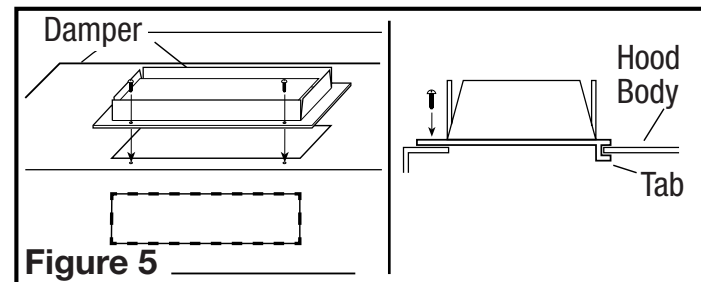

Figure 5
6. For 3-1/4" x 10" vertical or horizontal ducting, install the damper assembly to the hood by sliding the tabbed section of the damper under the hood body and securing with the two provided screws. Using approved duct tape, tape around the collar to seal off any air leaks (**Figure 5**).